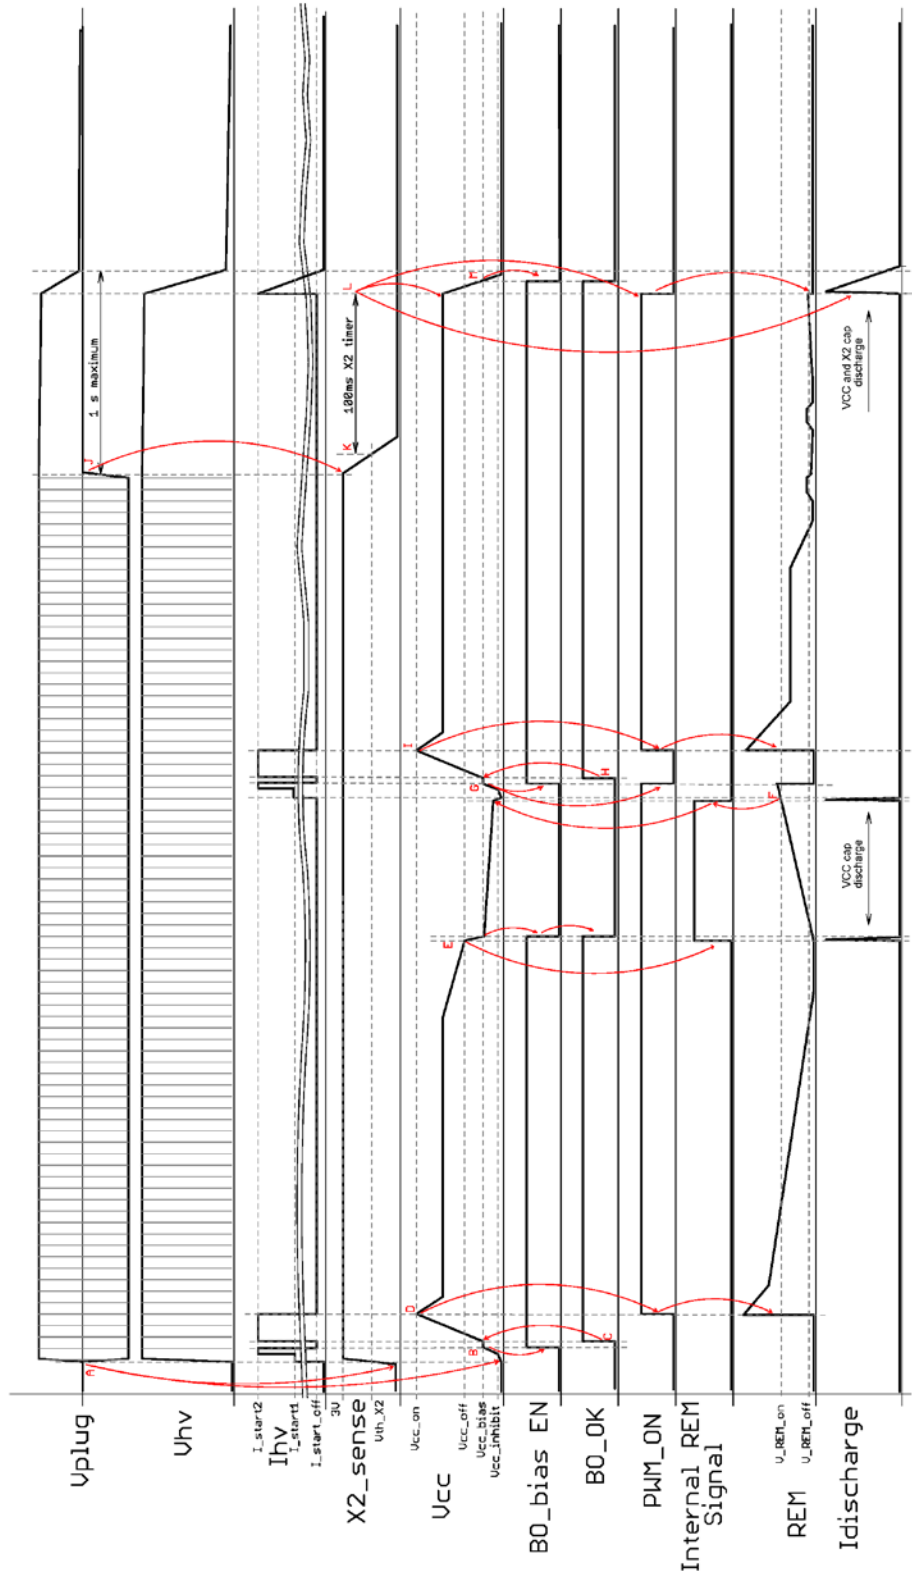

Figure 51. IC Operation Sequencing – Case 1 (Active OFF)
1. Application start, remote off/on then AC line off – Figure 51: